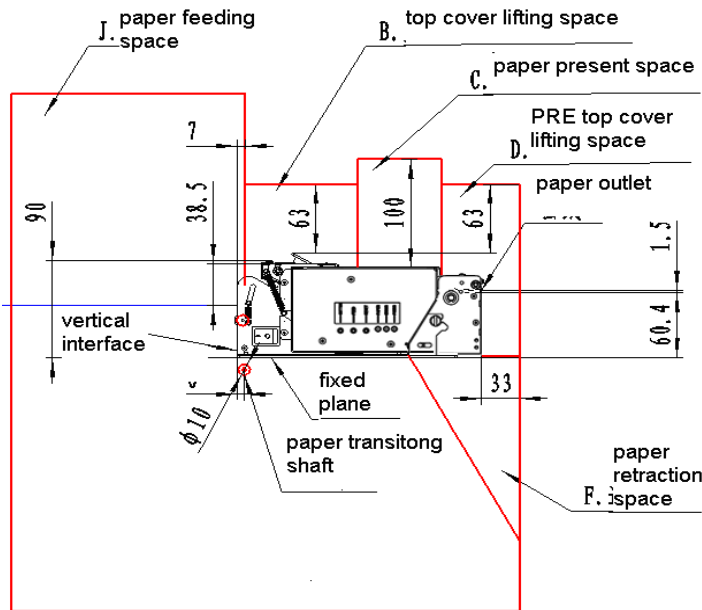
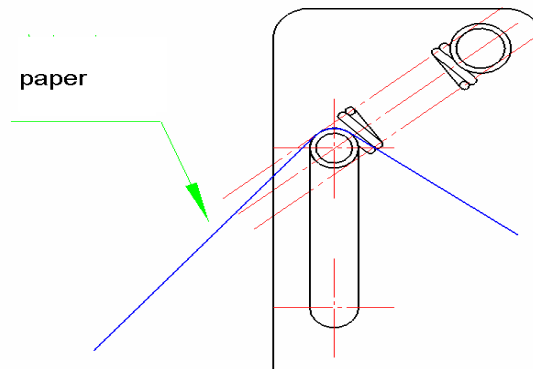

Figure 4.7.3 Structure without paper holder
Figure 4.7.8 Buffer explanation
- ◆J: paper feeding space allowed by the paper roll. If your printer doesn't have paper holder or the paper holder is made yourself, please consider the space. (Figure 4.7.3) There is a blue line in the space. If paper feeding is controlled above the blue line, your printer is considered to be horizontal. Or else, it is vertical. For horizontal type, you had better control the paper roll above the space, mainly in order to use the buffer mechanism of print mechanism to avoid compression. For vertical type, Please add buffer mechanism to paper holder (as figure4.7.8). In addition, if paper feeding touches vertical critical interface (as figure4.7.3), please add paper transition roller to the paper holder in order to avoid that paper touches metal parts directly, causing paper damaged.